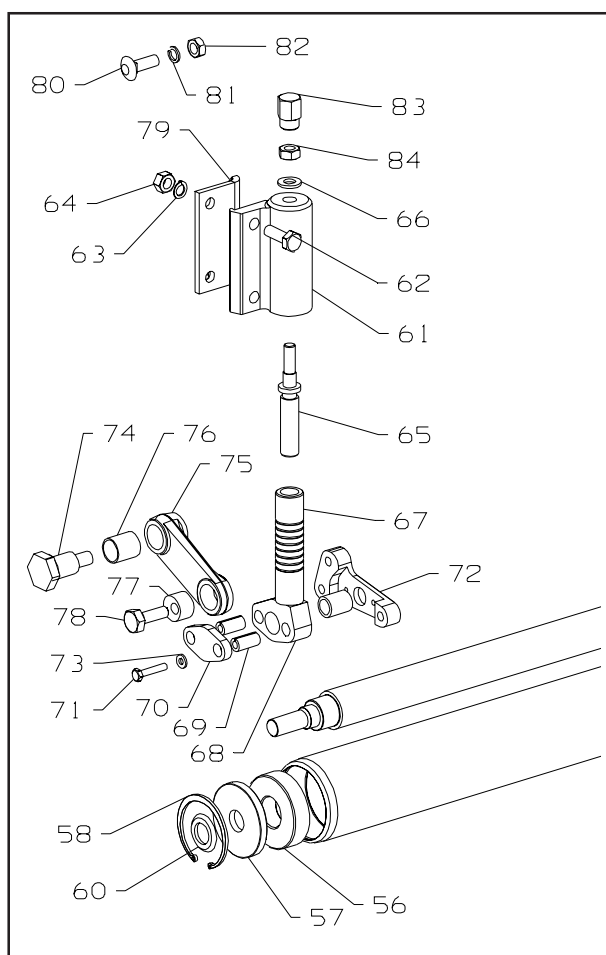

Fig.5
- 1) Release the two screws (78 Fig.5) which hold the eccentric bush in the lever.
- 2) Turn the adjuster (83 Fig.5) at the rear of the unit, clockwise to reduce the height of cut, or anticlockwise to increase the height of cut.
- 3) After adjusting securely tighten screws (78 Fig.5).